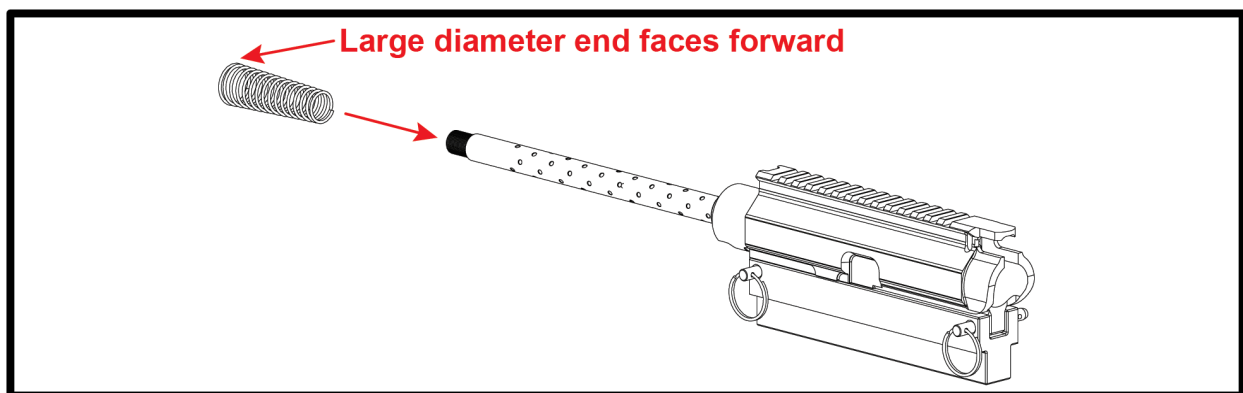

FIGURE 14.1 - Install the Conical Spring
Step 1 — Install the Conical Spring (FIGURE 14.1)